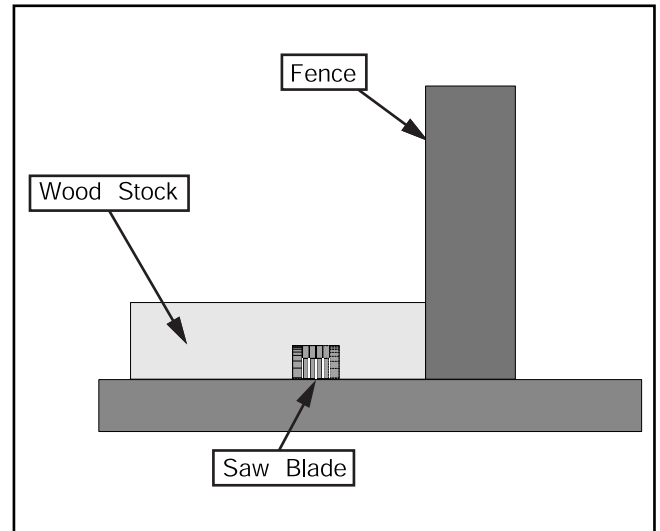

Figure 33. Single-blade dado cut.
6. If dadoing along the long length of your workpiece, adjust the distance between the fence and the inside edge of the blade to suit your needs as shown in Figure 33.